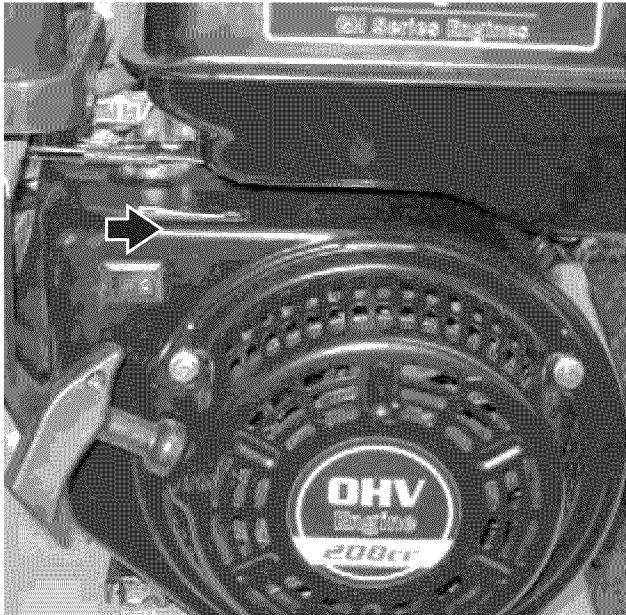

Figure 43 – Engine ON/OFF Switch OFF Position
2. Move the engine ON/OFF switch to the **OFF (O)** position (see Figure 43).